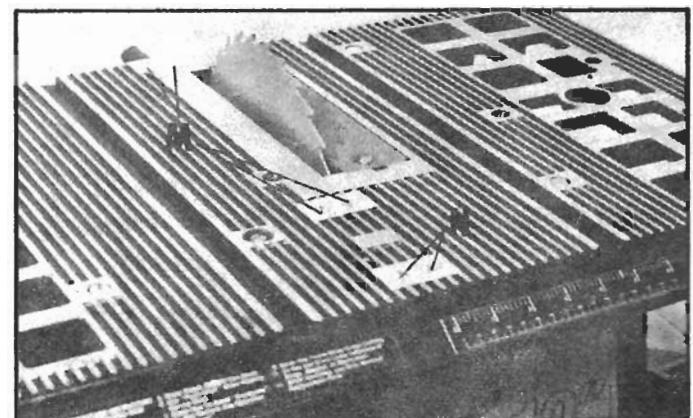

Fig. 25
The saw is adjusted at the factory so that the saw blade is parallel to the miter gage slots. It is best, however, to check this adjustment before operating to obtain the best results from the saw. Do not loosen any of the six screws (M) or (N), Fig. 25 unless absolutely necessary.
5. If the saw blade is not parallel with the miter gage slot, slightly loosen the four pivot rod bearing retainer screws (M), Fig. 25. Adjust the angle of the blade by shifting the entire assembly in the desired direction. Retighten four screws (M) when satisfied blade angle is correct. Additional adjustment can be obtained by loosening two screws (N) Fig. 25, but should not be done unless absolutely necessary.